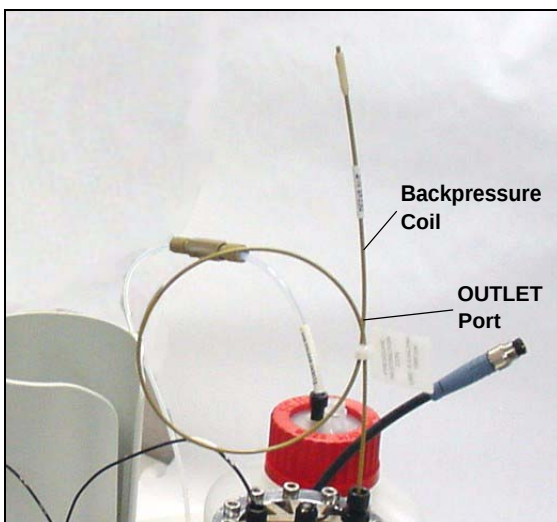

Figure 5-37. EluGen Cartridge Outlet Connection for Conditioning the Cartridge
15. Connect one end of this coil to the EluGen cartridge **OUTLET** port (see Figure 5-37). Leave the other end of the coil unconnected.